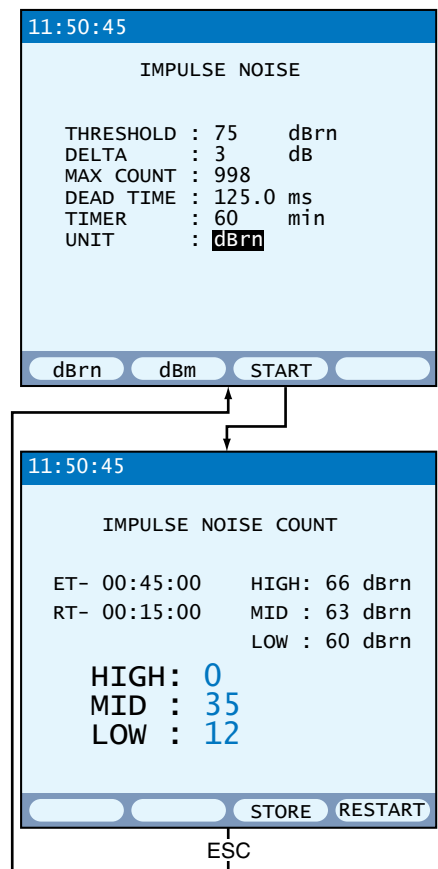

Figure 56 Impulse Noise Screens
4. When ready, press START (F3) and refer to the following explanation of the items shown in the bottom screen in Figure 56.